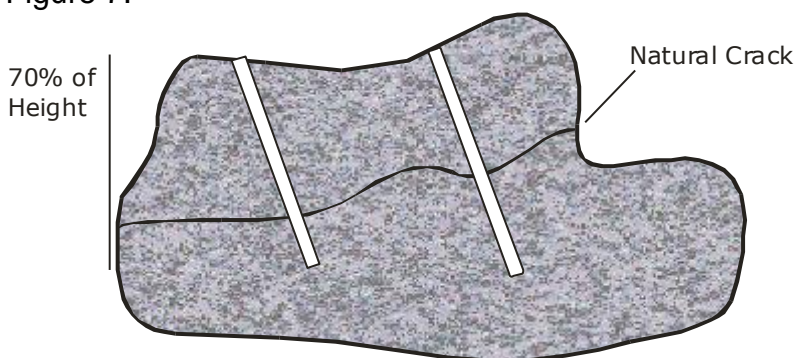

Fig 7
- Drill the holes perpendicular to natural cracks in the rock (or as close as possible) see Figure 7.